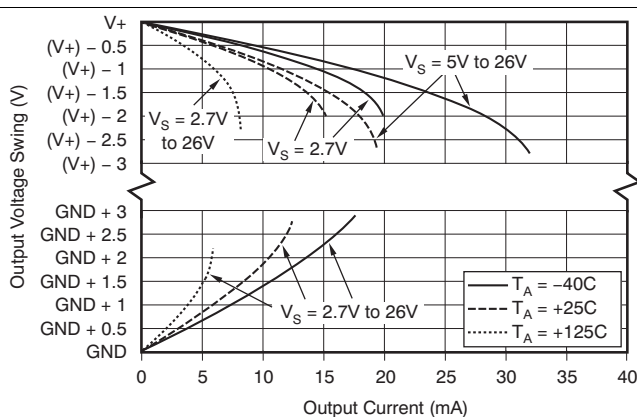

Figure 10. Output Voltage Swing vs Output Current
(2) See Typical Characteristic curve, *Output Voltage Swing vs Output Current* (Figure 10).